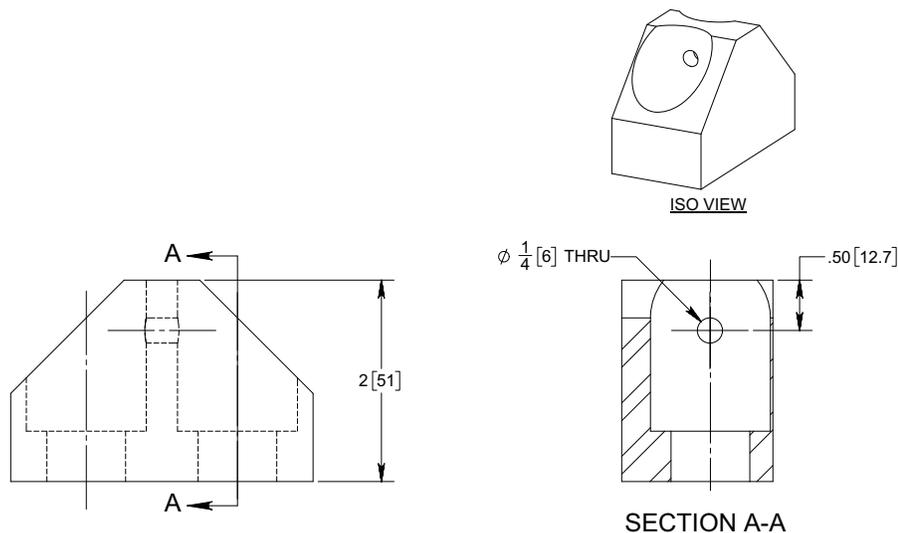

Figure 2: Drilling Holes on Pressure Pads
1. If the pressure pads do not have drilled holes for securement, then drill 1/4" holes into both pressure pads as shown in Figure 2.